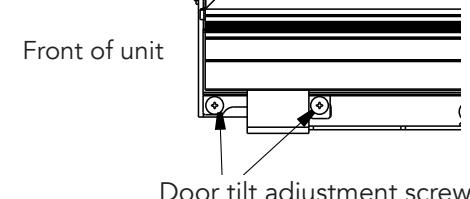

Fig 5
For door tilt adjustment, loosen the (4) #3 Phillips head screws below the skirt and adjust as needed (See Fig 5). The rear screws are slotted to allow the door to pivot at the front of the bracket. Keeping the front screws "snug" will aid in adjustment.